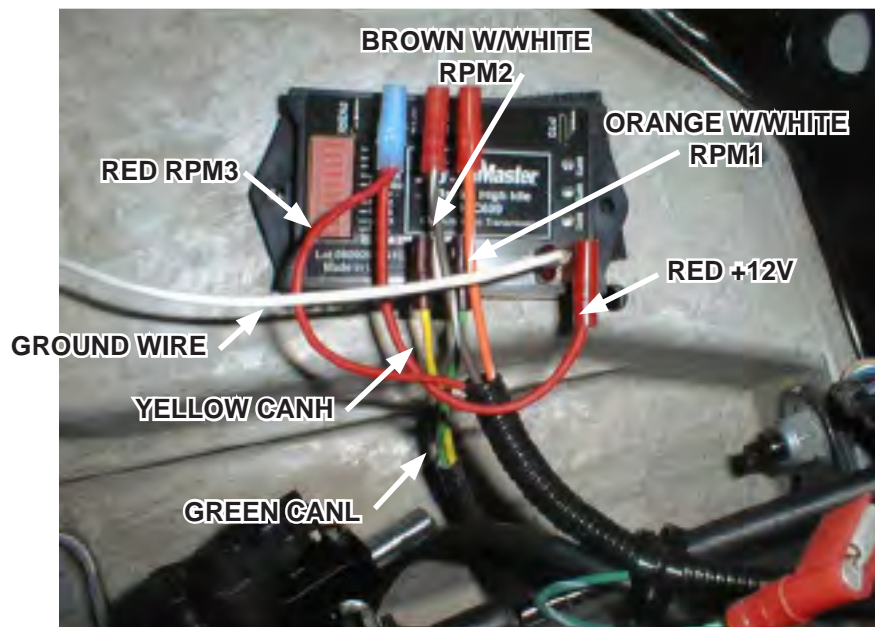
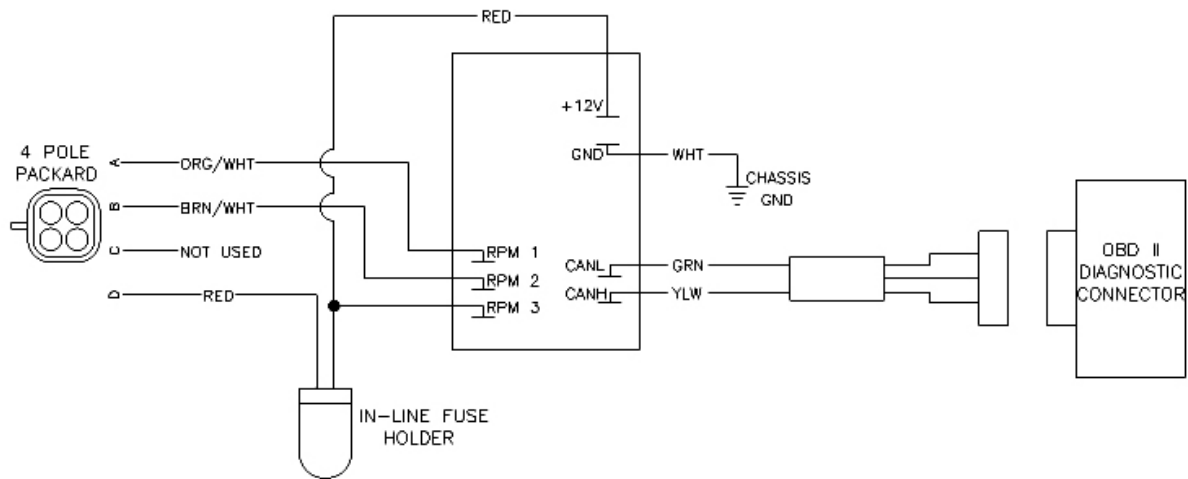

Figure 31. Mount New Throttle Control Module under Dash
Figure 32. Wiring Diagram for GM 3 Speed Throttle Control
1. Using the provided Velcro, mount the new Throttle Control module under the dash just above the gas pedal (see Figure 31).
2. Connect the Data Link Cable (DLC) harness and the provided wires to the controller as follows (see Figure 31 and Figure 32).